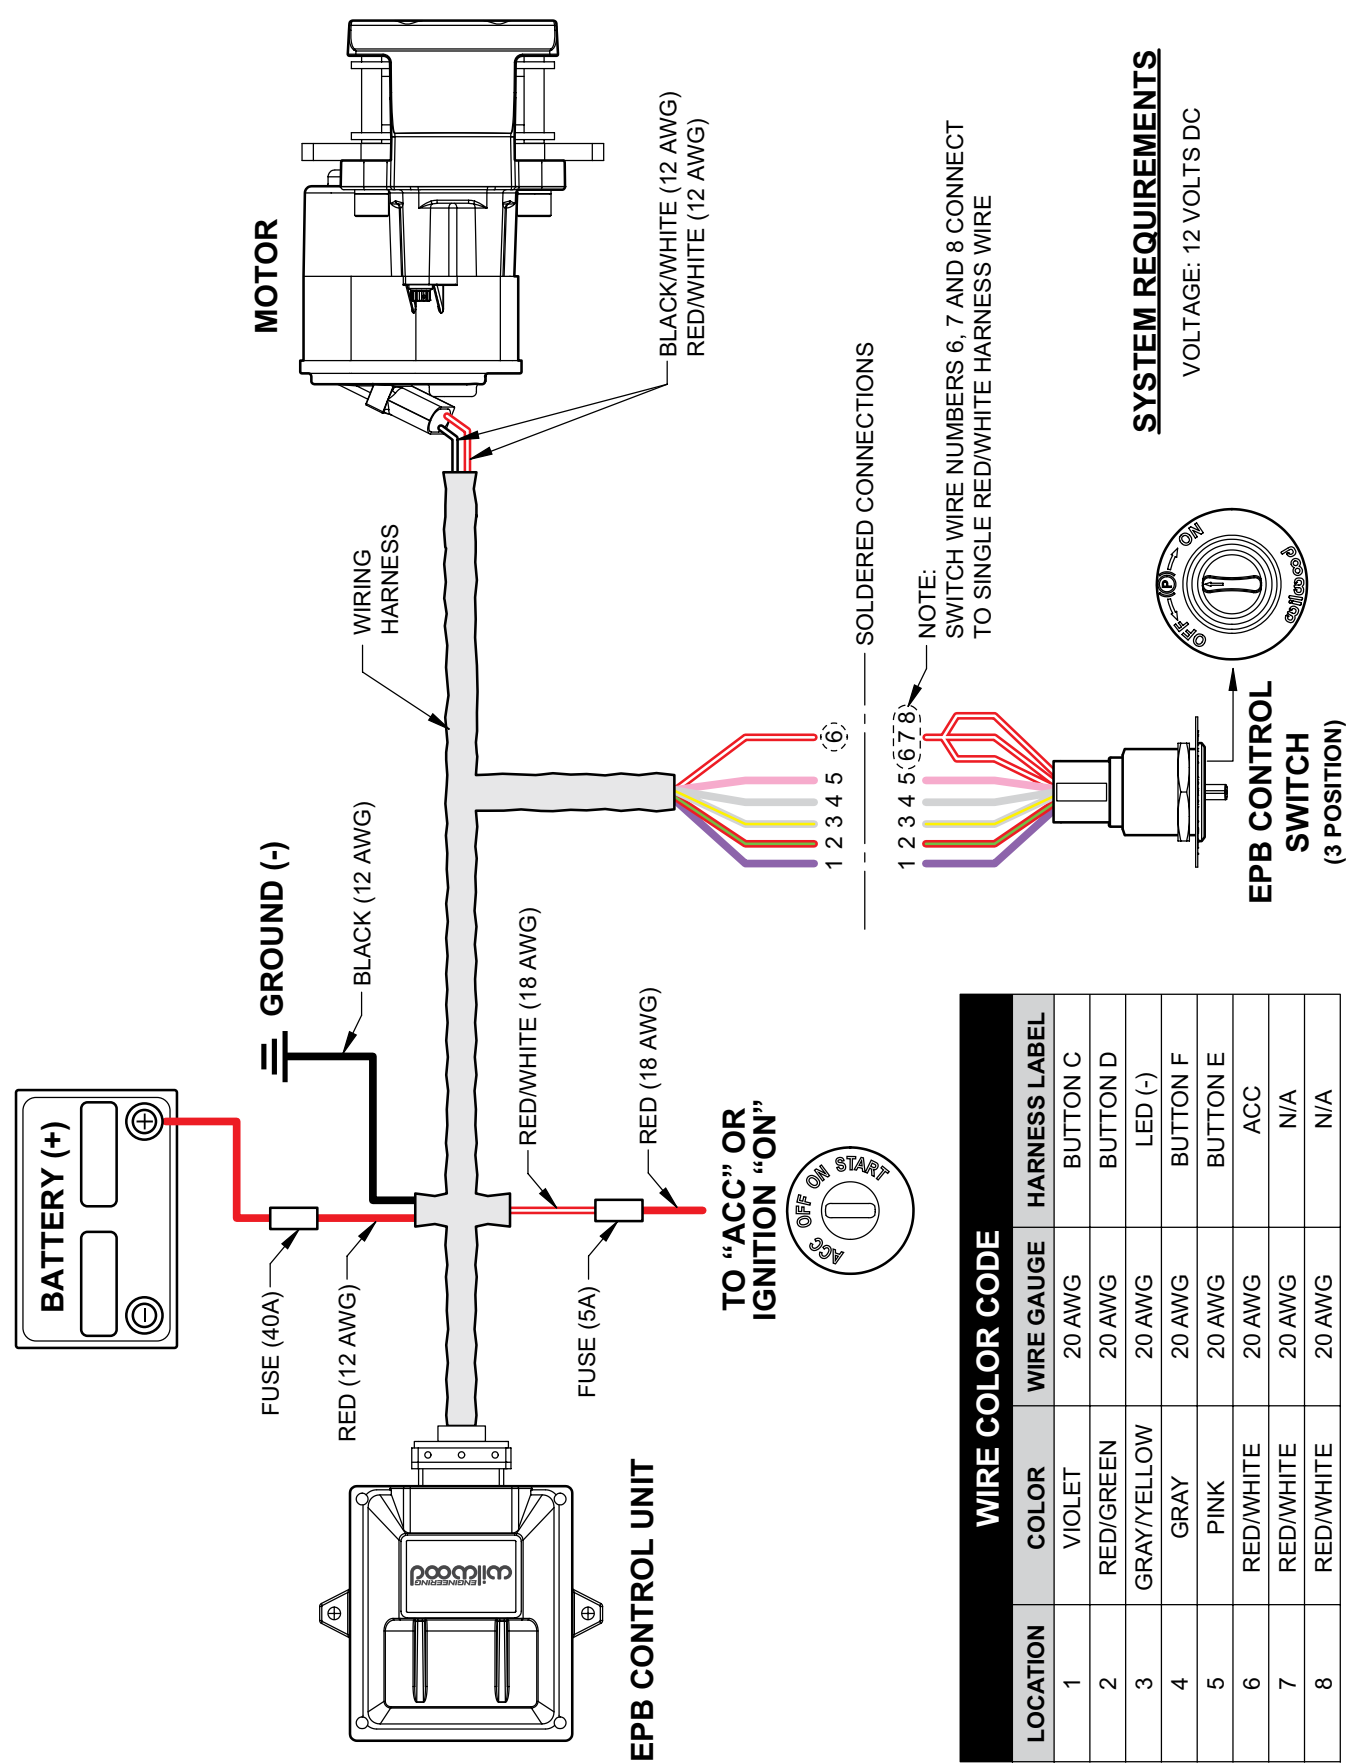

Figure 4. EPB Wiring Diagram
- EPB WIRING HARNESS - All wiring harness leads are labeled – refer to wiring diagram, Figure 4. Carefully route harness cables/wires to prevent contact with moving or rotating components and away from heat sources and pinch points. **NOTE:** *Wilwood EPB harness is designed for use in many different vehicle applications and it is the installer's responsibility to properly route cables/wires and ensure adequate clearance and retention for EPB components.*
Wiring installation - Refer to wiring diagram, Figure 4